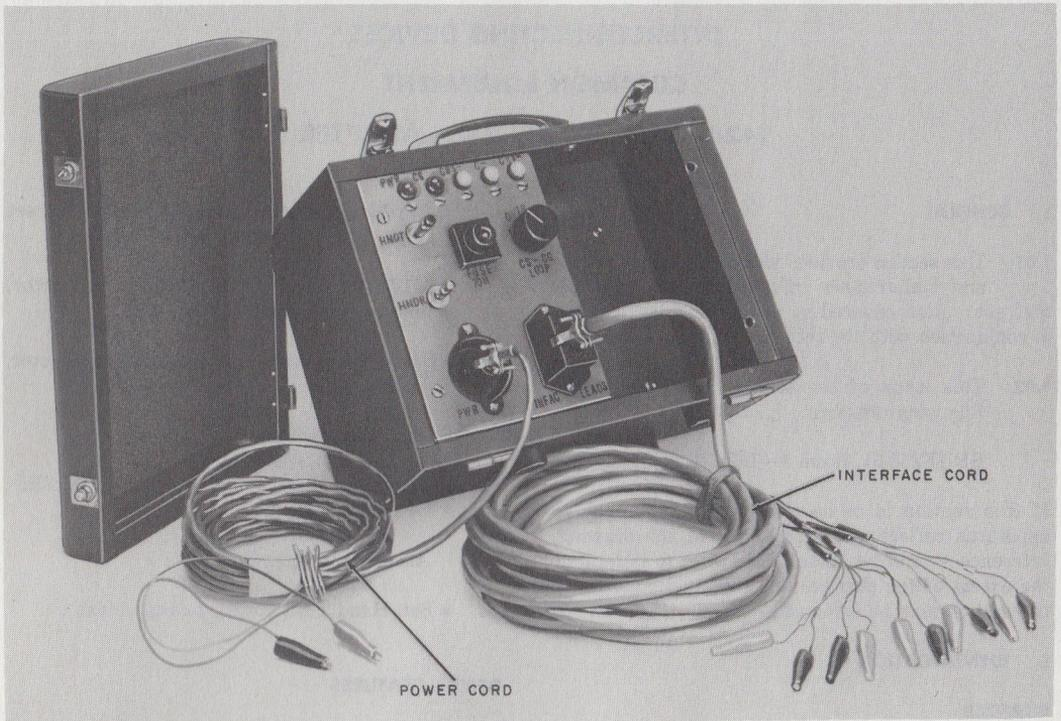

Fig. 1—142A Test Set
2.01 The 142A test set (Fig. 1) is designed to permit field testing of various multilead interconnecting units (IU) by simulating the inputs from the customer-provided equipment (CPE). The test set can be used for installation and maintenance tests of 101- or 102-type IUs.